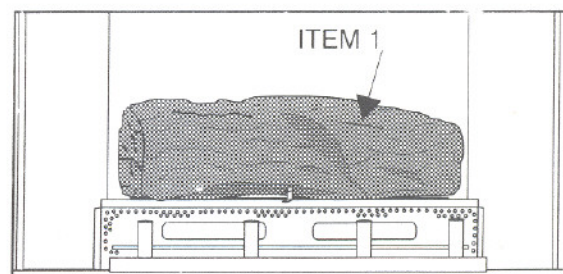
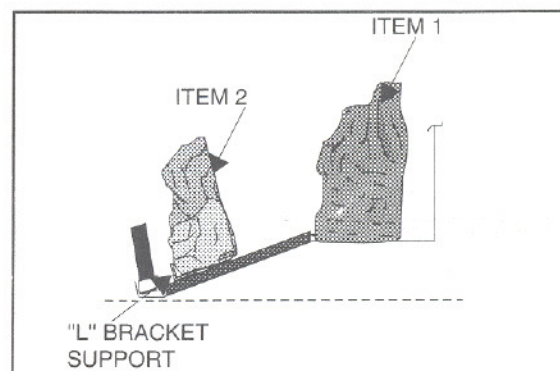

Figure 52
Figure 53
2. See **Figure 52**. Place the Back Log (**Item 1**) on the Back Log Support ensuring that the log is up against the back of the ignitor/pilot assembly. The flat surface of the log will sit on the Back Log Support with the split side of the log facing front. (See **Figure 53**.)